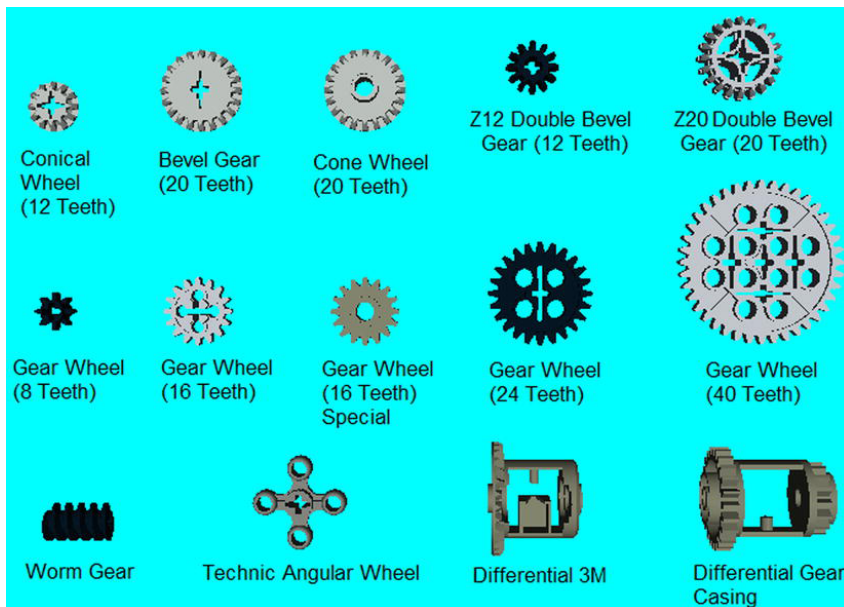

Figure 1-4. A sample of the many gears that work with LEGO Technic
Where would any machine be without the gears that set other gears into motion? These pieces most certainly set the Technic world apart from the usual sets. They come in many forms, as you can see in Figure 1-4.
- **Gear:** A source for the parts listed in Figure 1-4.